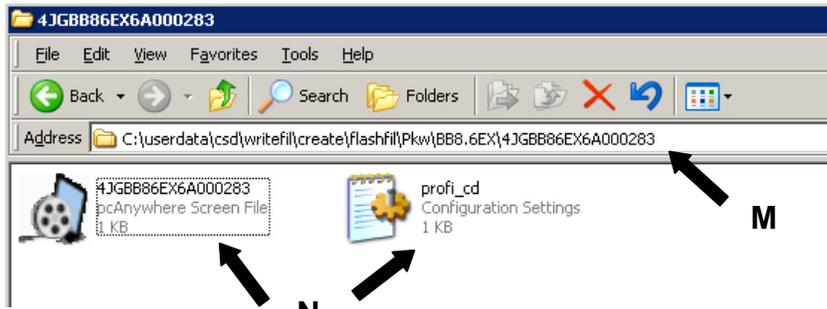

Figure 9
(M) Look for the files in the following directory of your computer (Figure 9).
(N) Only burn the two files located in the specified VIN directory (Figure 9).